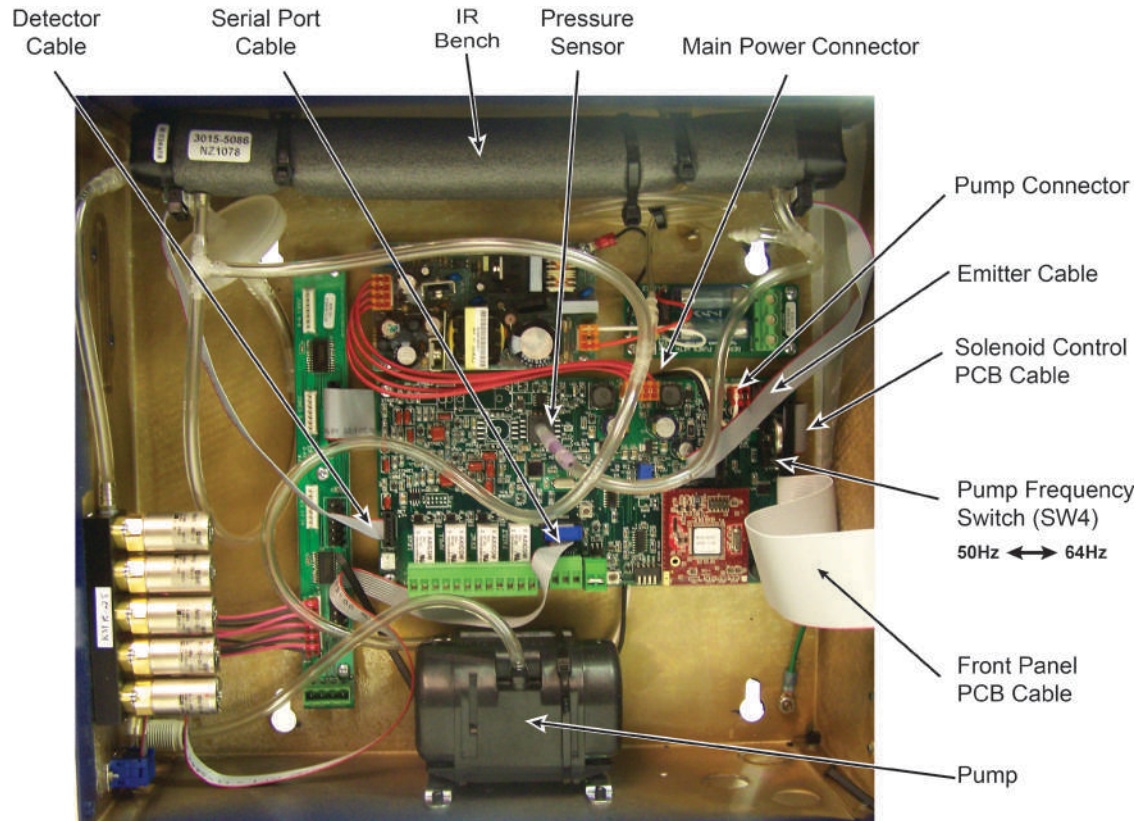

Figure 2. Multi-Zone Components
3. Take time to familiarize yourself with the internal components displayed in Figure 2.